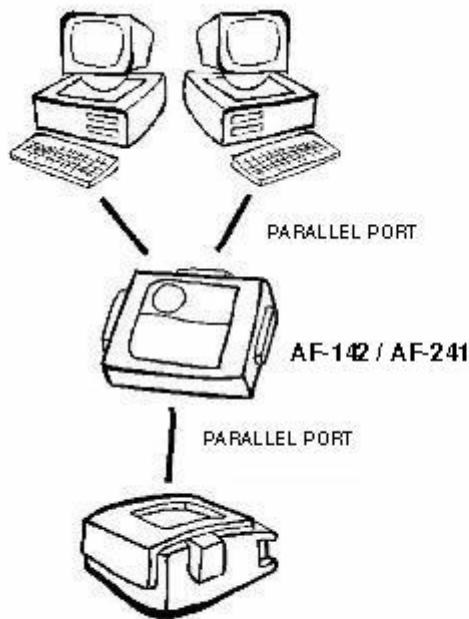

fig.1 2-to-1 mode
3. Connect the ParaHub to the printer by a DB-25 to C-36 male-to-male cable, as shown in fig. 1.